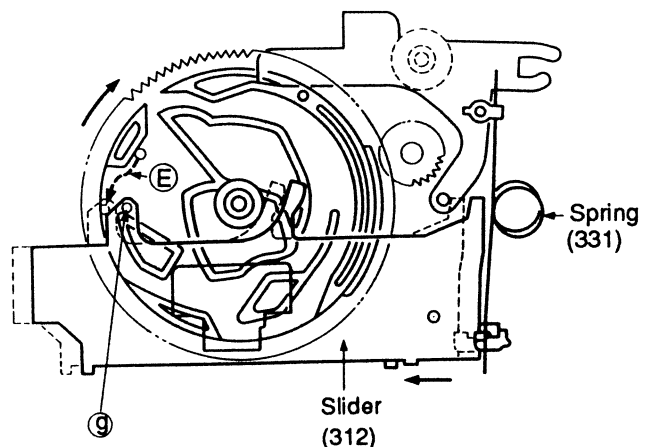

Fig. 11
3. Since slider (312) is pushed by spring (331), boss (g) moves along track (E).
4. The head slider rises, but the reversing rod of the head is not moved, so the mechanism remains in the RVS position. (Fig. 11)